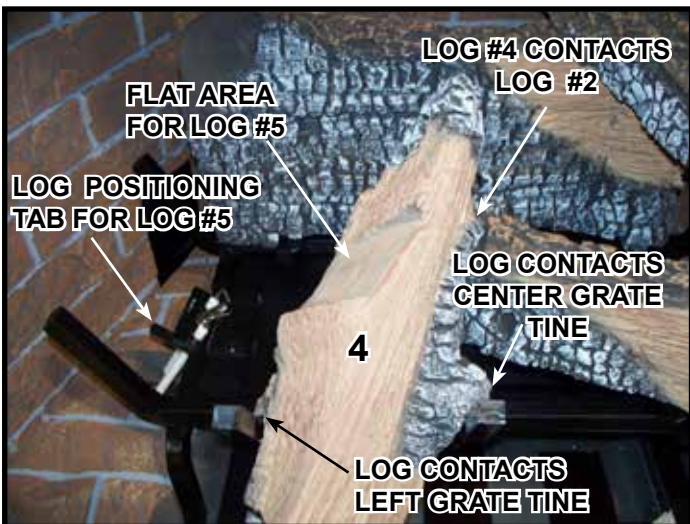
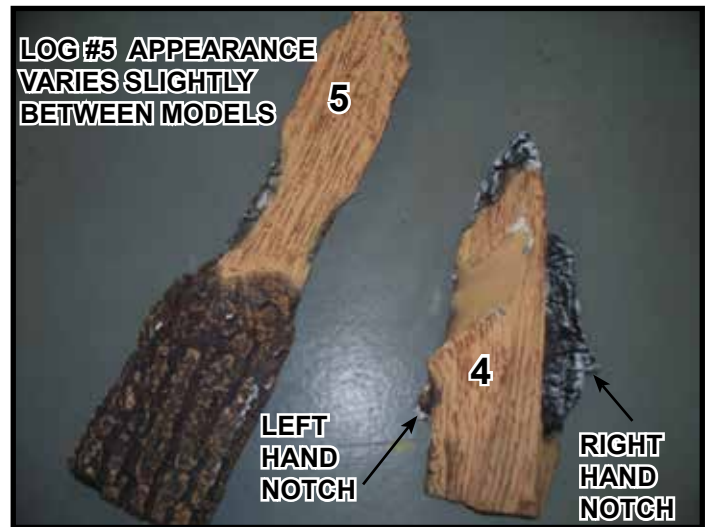

Figure 8.
Figure 7.
**Log #4 (SRV2280-704 for TRUE-36; SRV2281-704 for TRUE-42):** See Figure 7. Place Log #4 between the left and center grate tines. Notches on log will rest on tines. Log should be positioned as far forward as possible. See Figure 8. Log #4 will lean against Log #2.
**Log #5 (SRV2280-705 FOR TRUE-36, SRV2281-705 FOR TRUE-42):** Locate flat area on Log #4 that will be used to position Log #5. See Figure 8. Place Log #5 into appliance as shown in Figure 9 or Figure 10. Left end of log should rest against left side refractory just in front of air inlet on rear, lower left of appliance.